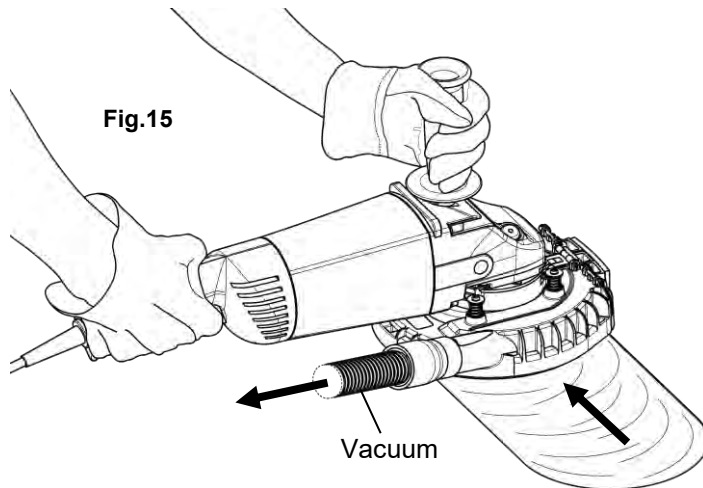

Fig.15
4. Place the [a] Main Body on the material and slowly move over the surface to be ground. (Fig.15)